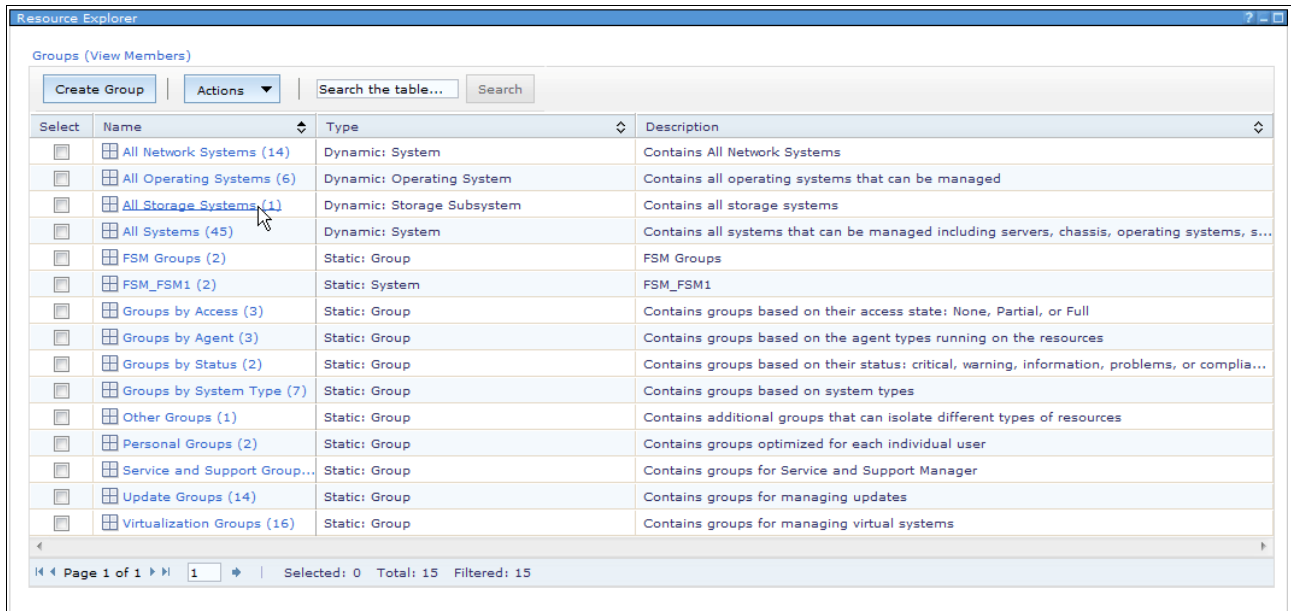

Figure 3-92 Navigate to all storage subsystems
3. Navigate to manage discovered storage, as shown in Figure 3-92.